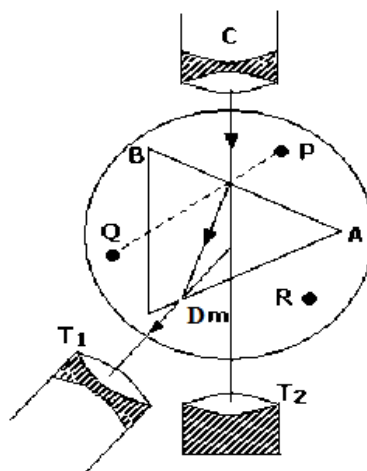

Fig. 3: Ray diagram for determination of angle of minimum deviation
Place and centre the prism on the prism table as shown in the Fig. 3. If the telescope is placed as shown, keep the frosted surface to the left and the refracting edge to the right. We start with the procedure for monochromatic light from a sodium vapour lamp. Switch on the source and view the emergent light – image of the slit - with one unaided eye. Now adjust the prism for minimum deviation in the following way. Starting with the refracting face nearly normal to the light, rotate the prism table clockwise so that the refracting edge moves towards you, all the time keeping the image of the slit in view. You will easily find a position where the image or spectral line begins to recede in the opposite direction although you continue to rotate the table in the same direction. Once you find this position, you may rotate the prism both clockwise and anti- clockwise to find the same thing happening. This position where the spectral line begins to recede in opposite direction is the position of minimum deviation. Now while looking at the slit with the unaided eye, rotate the telescope so that it comes between the prism and the eye. Rotate the prism and if needed the telescope to find the position of minimum deviation. Note the reading of the vernier V_1 . Let it be R . The difference between the D_o and R is the minimum deviation D_m . Calculate refractive index from the equation (1) above.